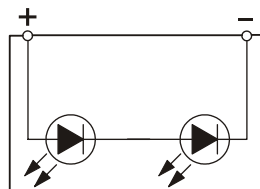

Fig. 3
3. Connect the alarm indicator in accordance with the connection diagram (Fig. 3).
**Line connection FDAI92-Ex (Fig. 3)**